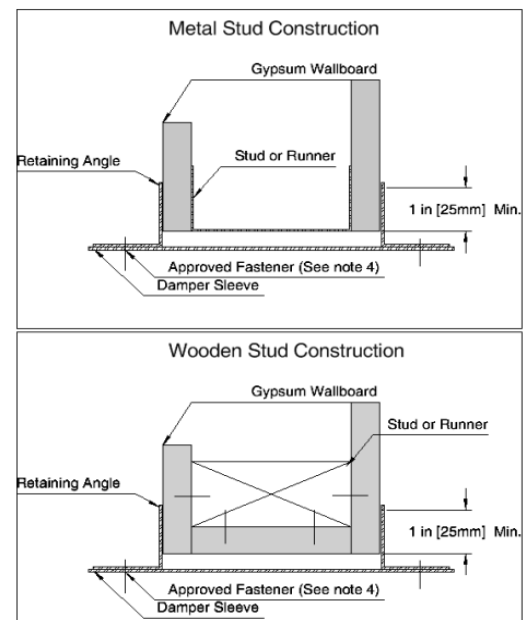
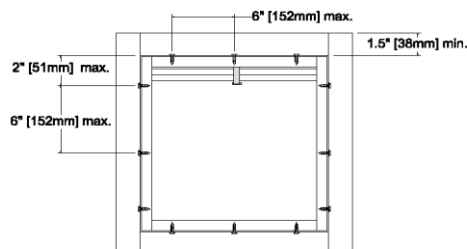

Figure 1
Figure 7
- 4. SECURING DAMPER IN OPENING (2 SIDED ANGLE METHOD):** In this method 2 sets of angles are used to secure the damper in the opening, one on each side of the partition (See Figures 1 through 7). Two Angle Method is approved for 1-1/2 Hr, vertical or horizontal orientation, and any maximum size multi-section UL approved damper. Angles shall be a minimum of 1-1/2" x 1-1/2" (38 x 38mm) x 16 gage. The angles are to overlap the partition a minimum of 1" (25mm). These angles may be of a unit type construction and may or may not be fastened to each other at the corners. Angles are to be fastened to the sleeve on 6" centers with #10 (M5mm) sheet metal screws, 3/16" (5mm) steel pop rivets, 1/2" (13mm) tack welds, or 1/4" (6mm) diameter nut and bolts with not more than 2" (51mm) from each end with a minimum of two connections per side/leg. When the duct work terminates at the damper or installation prohibits angles from turning out/away from the wall, the retaining angle shall be reversed (leg turned into the opening) providing the size of the opening is increased by an amount equal to twice the combined thickness of the angle and the height of the screw or bolt head to maintain expansion clearances. See note 1A for information on clearances. See Fig. 7 for detailed drawings of installations. Retaining angles should not be fastened to the wall / floor material. The angles should only sandwich the partition and allow for damper / sleeve expansion during periods of intense heat.